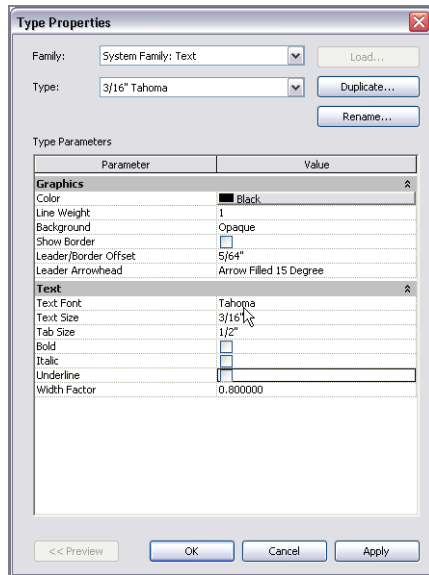

FIGURE 5.54: Changing the text values in the Type Properties dialog box
6. Change the Text Size setting to 3/16" (3.5mm), as shown in Figure 5.54.